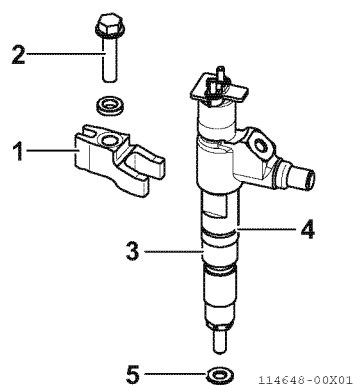

Fig.50-17
- 5 - Loosen the bolt (2, Fig.50-17) of the injector fixture retainer (1, Fig.50-17), and remove the injector (3, Fig.50-17) together with the O-ring (4, Fig.50-17) and gasket (5, Fig.50-17).